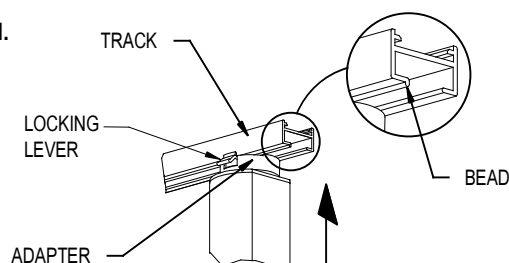

FIG. 1
1. Insert the ADAPTER into the TRACK. LOCKING LEVER must be on the same side of track as Bead (FIG.1)